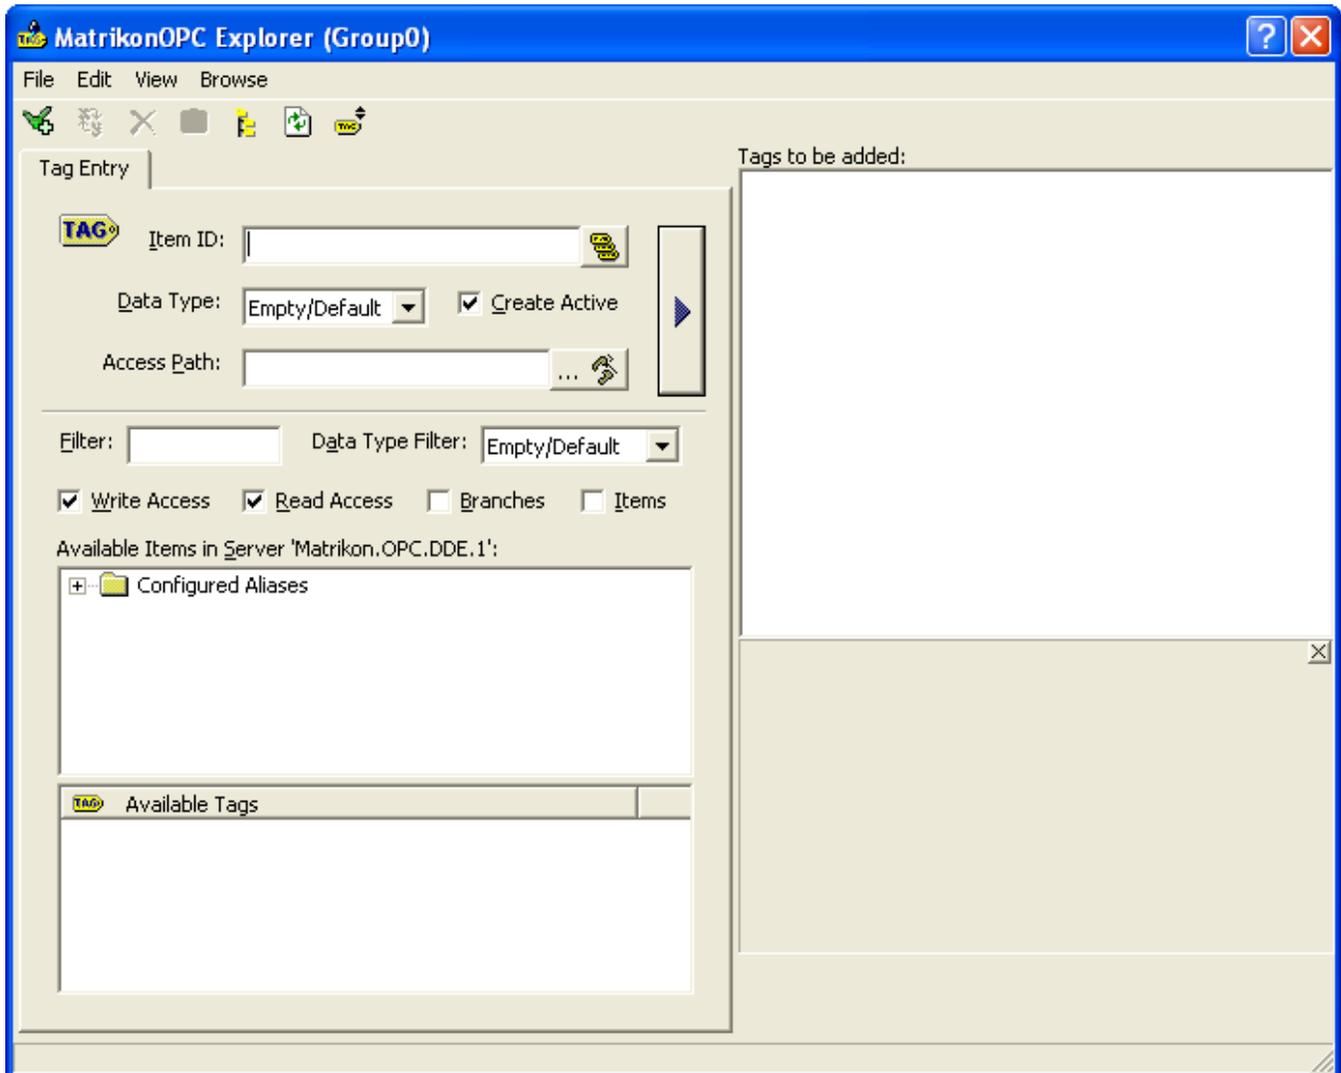

Figure 12 - MatrikonOPC Explorer Browsing Window
- The **OPC Explorer** browsing window appears (Figure 12). The browsing window is specific to the OPC server currently selected and connected.